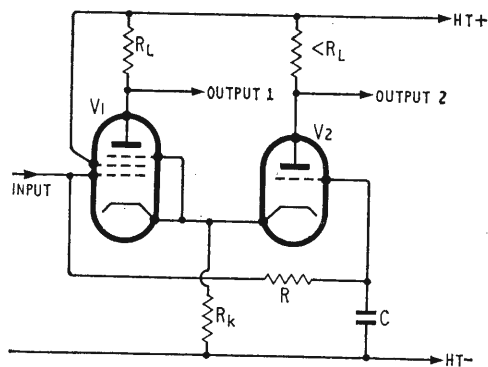

Fig. 6. Basic circuit of modified long-tailed-pair phase-splitter.
Circuits are known (e.g. ref. 5) that do give good h.f. response in phase-splitter service, but they suffer from high cost due to the complexity of the circuitry involved. The circuit that was finally evolved (Fig. 6) has a cost that is only slightly more than that of